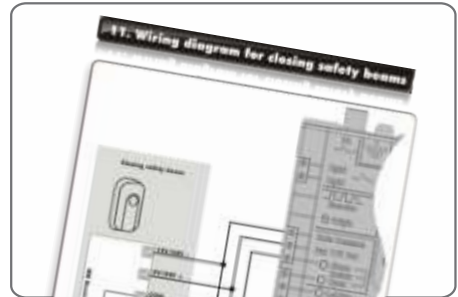
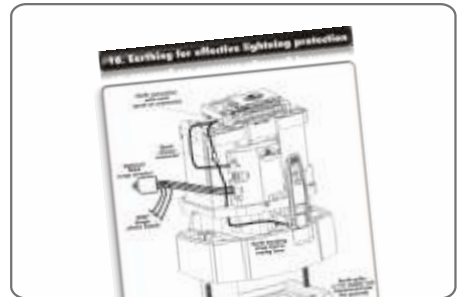

FIGURE 32
FIGURE 33
2. Mount the origin marker to the rack a minimum of 500mm from the origin sensor. Refer to Figure 32, isometric view A or plan view B.
3. Mount the origin marker onto the rack using the bracket provided referring to Figure 32 if mounting onto steel rack or Figure 33 if onto nylon angle rack.
4. With nylon angle rack it is preferable to use self tapping fasteners into the side of the nylon angle rack as shown in Figure 33. Take note of the orientation of the origin marker.